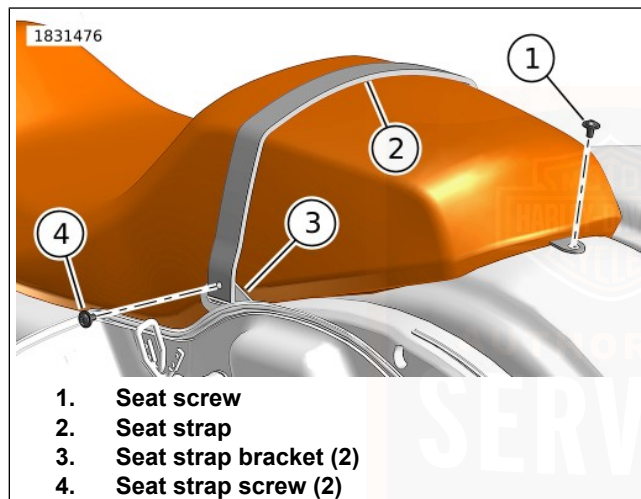

Figure 120. Seat Screws
2. See Figure 120. Remove a seat strap screw (4).
3. Pull seat strap (2) through slot in seat strap bracket (3).
4. Remove seat screw (1).
2. See Figure 120. Install seat screw (1). Tighten.